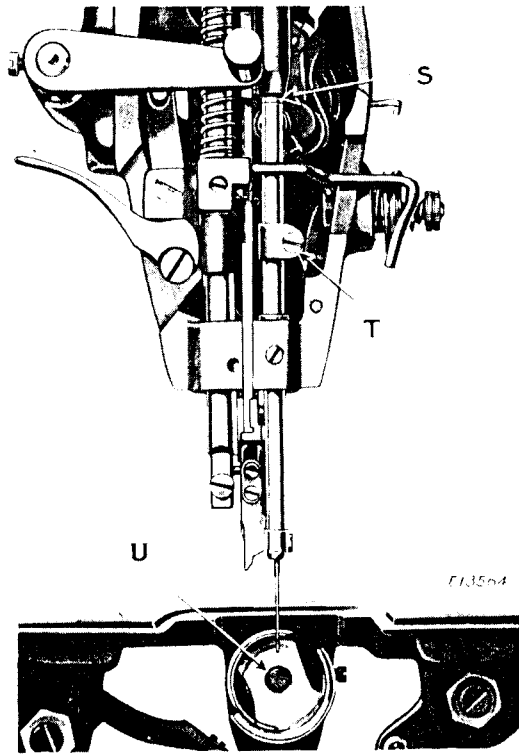

Fig.21
The needle bar, which is in the machine when shipped from the factory, has two timing marks near its upper end. Rotate the balance wheel until the needle bar moves down to its lowest position. The UPPER TIMING MARK on the needle bar should then be centered with the lower end of the needle bar bushing, as shown at (S) in Fig.21. In case the needle bar is not set at the correct height, loosen screw (T, Fig.21) and move the needle bar up or down until the UPPER TIMING MARK is centered with the lower end of the needle bar bushing, as shown at (S, Fig.21), then securely tighten screw (T).